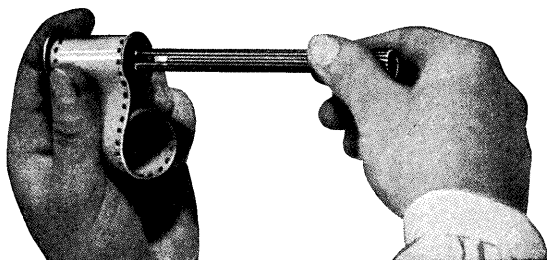

Fig. 23. Hand Film Winder
**Spooling the film.** Winding of the film on to the centre spool is made easier by a special metal **Hand Winder**. As shown in Fig. 23, the winder is inserted into the spool, on that side which contains the little cross-pin fitting the slit in the Winder.